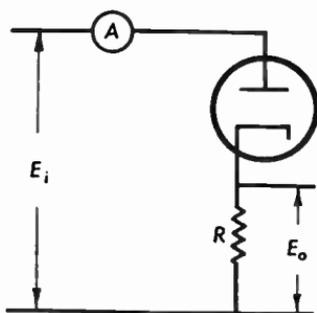

Fig. 8.10 Diode detector.
**8.10** The diode detector of Figure 8.10 has a plate resistance of 5000 ohms. The peak input signal  $E_i = 30$  volts. When a load resistor of  $R = 0.5$  megohms is used, the ammeter reads 40 microamperes. What is the efficiency of the detector?